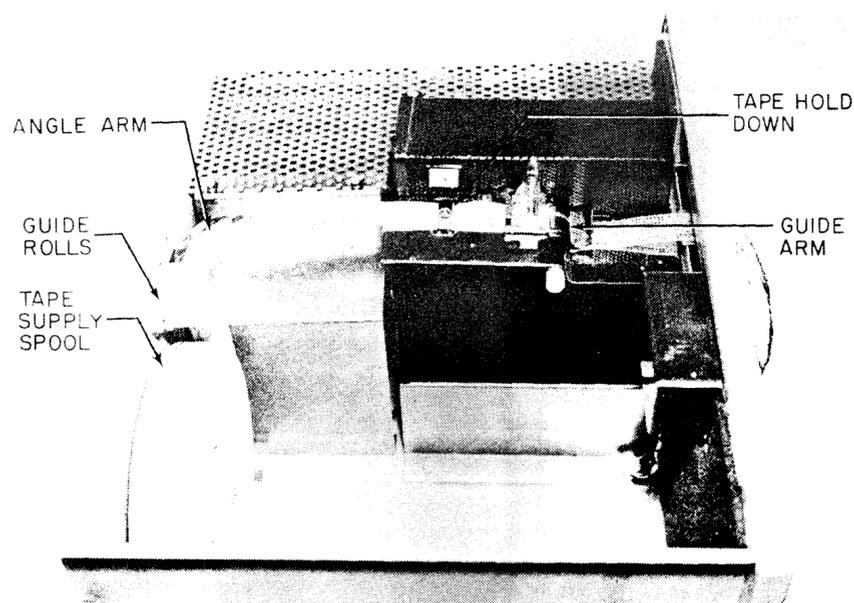

Fig. 7. Tape punch with paper tape in position
1. Place a roll of 1-inch wide tape on the supply spool (see Fig. 7).
2. Feed the tape around the guide rolls (2) and through the angle arm.